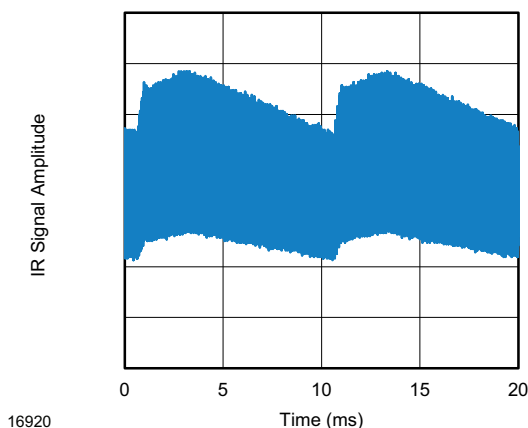
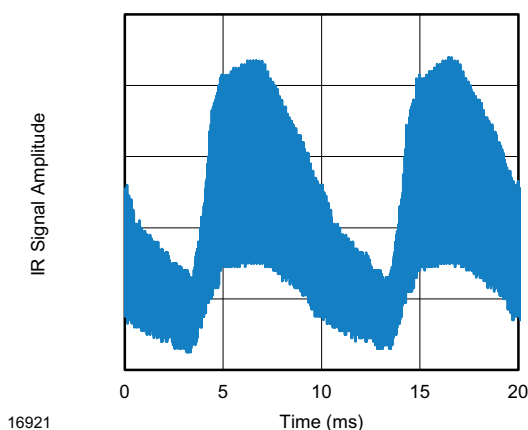

Fig. 13 - IR Emission from Fluorescent Lamp With Low Modulation
Fig. 14 - IR Emission from Fluorescent Lamp With High Modulation
- Strongly or weakly modulated patterns from fluorescent lamps with electronic ballasts (see Fig. 13 or Fig. 14)
| Suppression of interference from fluorescent lamps | Fig. 13 | Fig. 13 and Fig. 14 | Fig. 13 and Fig. 14 |